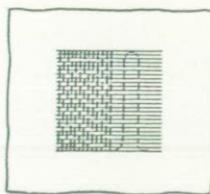

Fig. 53
- Turn fabric by a right angle and repeat operation until hole is fully darned (Fig. 53).